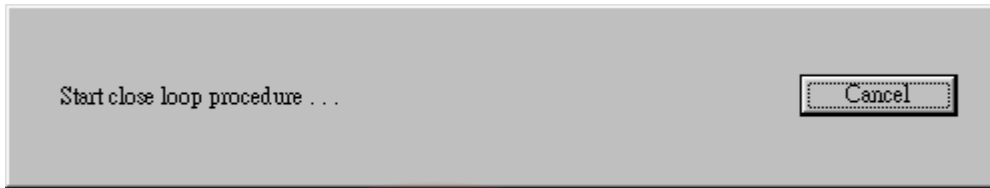

Fig. 21
- **SVON** : Check this to make motor SVON, then Fig. 21 is shown. And motor performs alignment. If motor alignment is not successful, it means the motor was not initialized correctly. Please refer to section 4.14 about setting parameters for initialize.